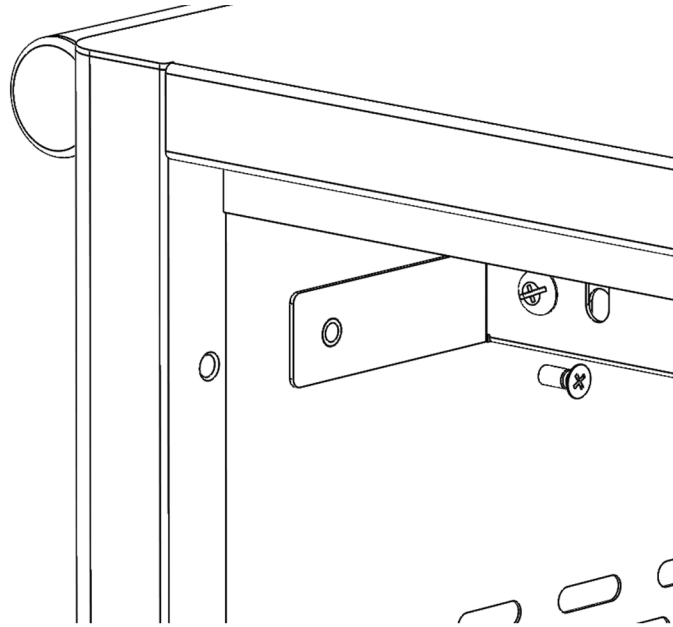

Figure 4-3. Installing the front cable managers.
1. Place the front cable managers into the cart, as shown in Figure 4-3.